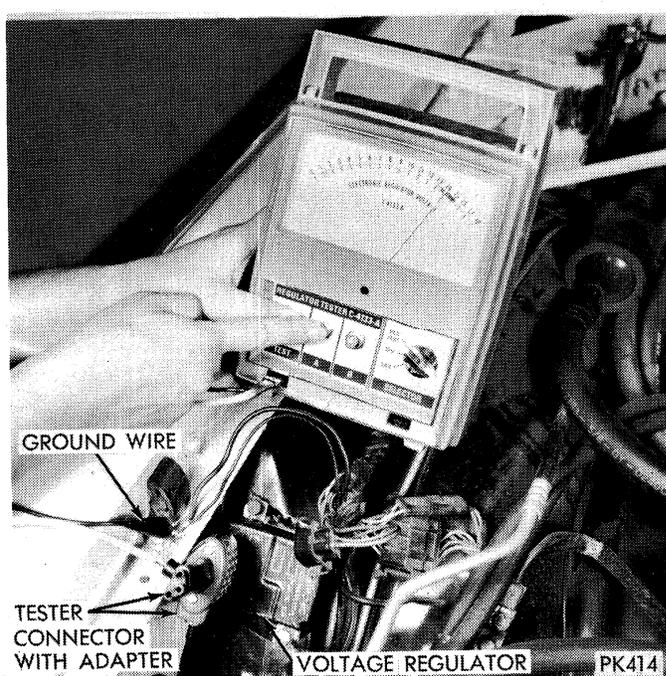

Fig. 10—Voltage Regulator Test (Depressing Test Button "A")
(7) While holding the test button in, depress **Black Button** (A) (Fig. 10), the meter reading should remain within the limits of step (6).